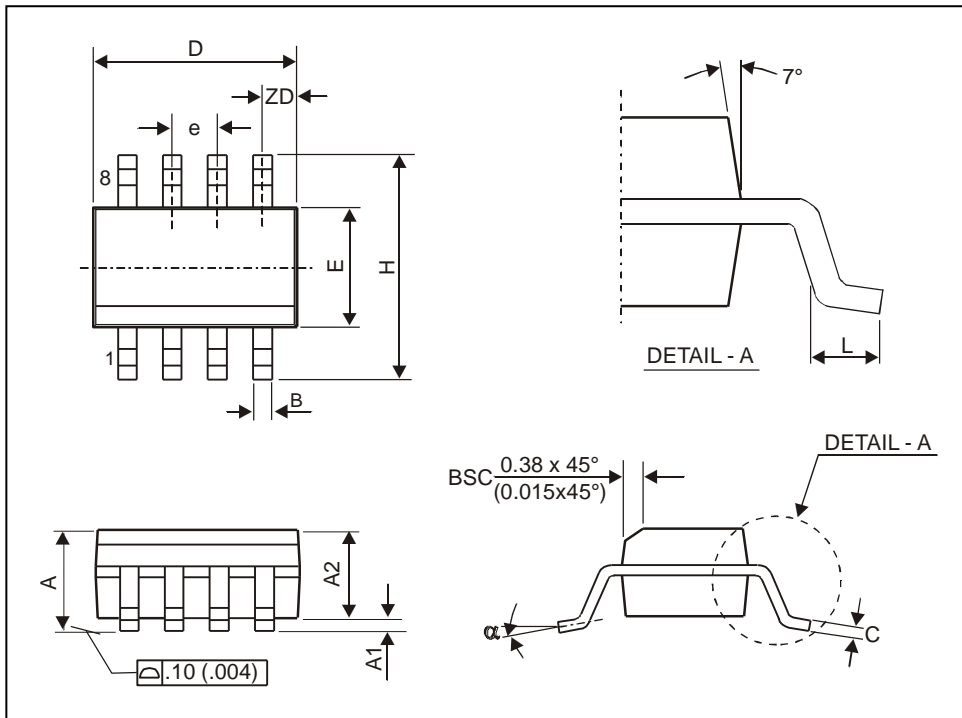

Fig. 18: SOIC8 (Small Outline Integrated Circuit)
typical values at $T_A = 23\text{ }^\circ\text{C}$ and $V_{CC} = 3\text{ V}$; test circuit shown in Fig. 18, $f_c = 315\text{ MHz}$
6.1. Test circuit component list to Fig. 18